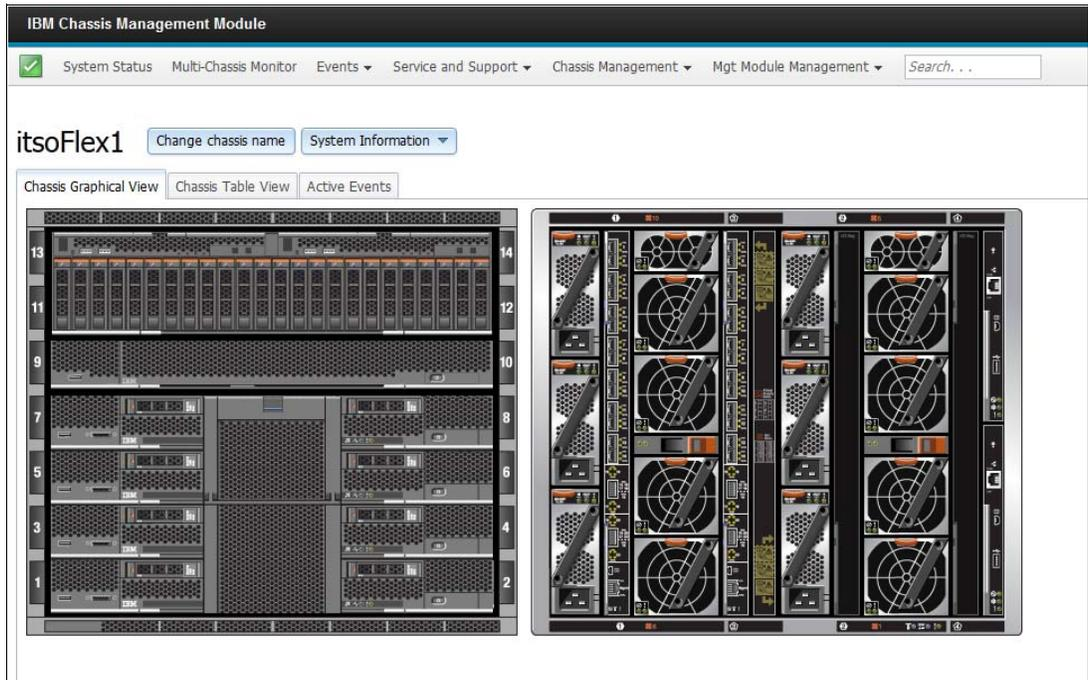

Figure 5-47 8-socket scalable connector attaching nodes in bays 1-8
- An example of an 8-socket (x880 only) system CMM chassis view is shown in Figure 5-47. If you are upgrading from a 4-socket complex to an 8-socket complex, ensure that all nodes are powered off, remove the 4-socket connector, and then install the 8-socket connector.